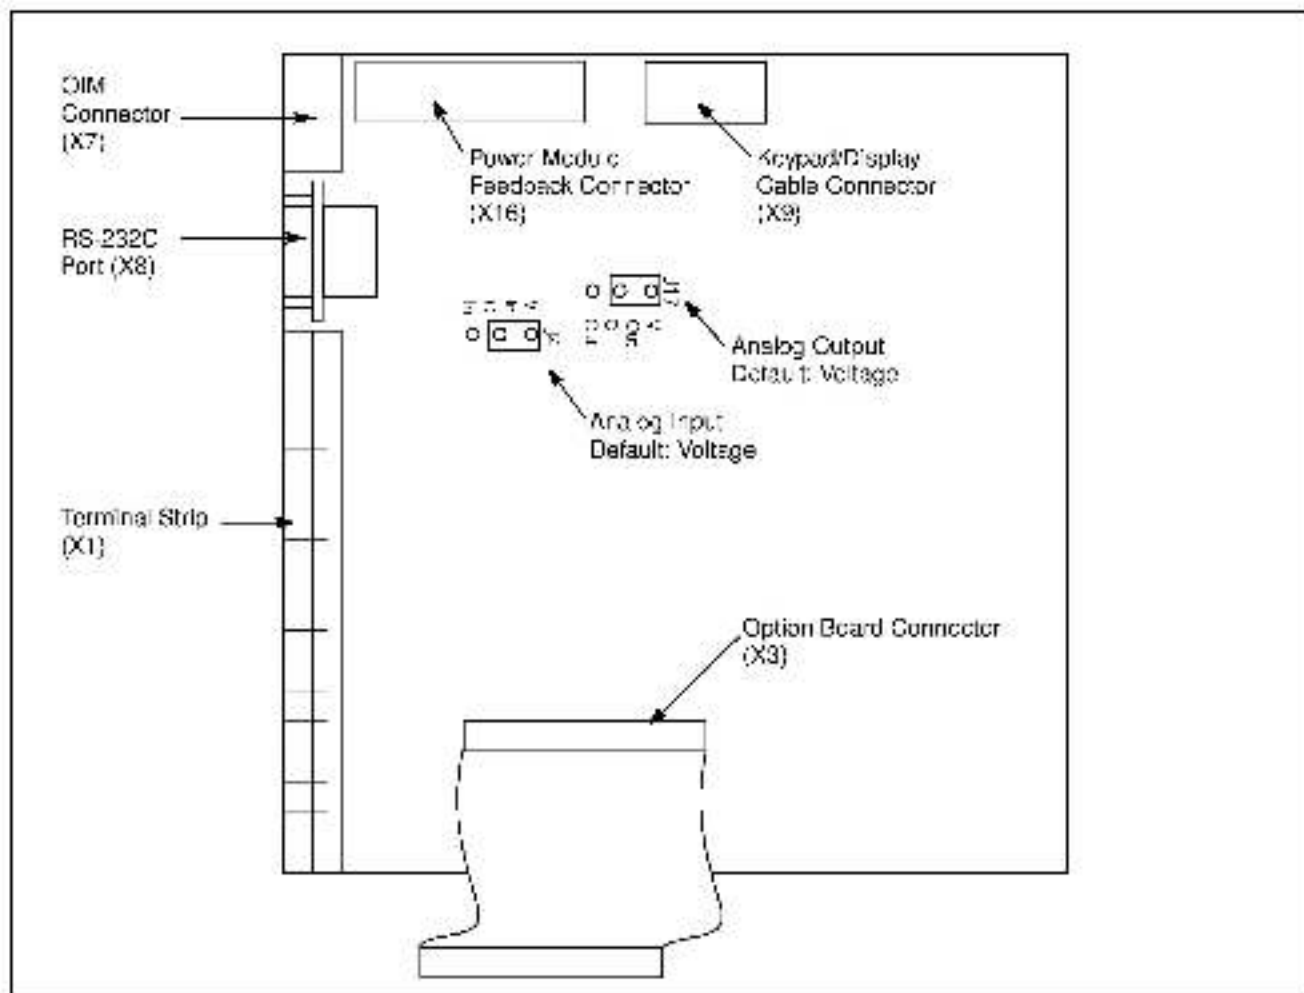

Figure 2.6 – Regulator Board Component Locations
Drive regulation is performed by a microprocessor on the Regulator board. See figure 2.6. Drive operation is adjusted by the parameters entered through the keypad. The Regulator board accepts power circuit feedback signals and an external speed reference signal, as well as data from an encoder that is attached to the motor when set up for FVC regulation.
The Regulator board components are shown in figure 2.6 and described in the following sections.
Jumpers J4 and J17 on the Regulator board are factory-set for voltage in and voltage out signals. Refer to figure 2.6 for their locations on the Regulator board. If you need to change the jumpers' settings, use the following procedures.
Step 7. Locate jumper J4 on the Regulator board. Refer to figure 2.6.
- Step 7. Locate jumper J7 on the Regulator board. Refer to figure 2.6.
The terminal strip on the Regulator board provides terminals for connecting customer I/O devices. See figures 2.6 and 2.9. The following terminals are provided: